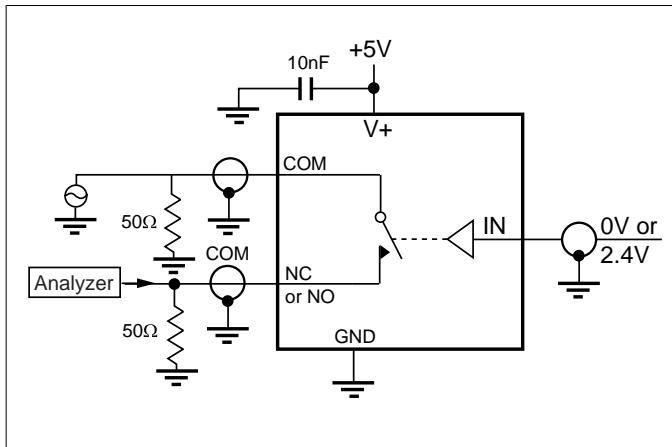

Figure 3. Off Isolation
7. Off Isolation =  $20\log_{10} [V_{COM}/(V_{NO} \text{ or } V_{NC})]$ . See figure 3.